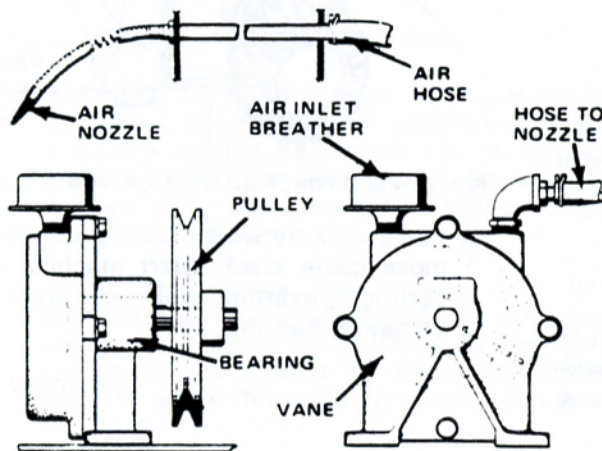

FIG. 29. AIR PUMP & CHIP BLOWER.
- (1) Compressed air for vane-type pump is delivered to chip blower nozzle. Adjust flexible blower nozzle to remove chips from sawing area. See Fig. 29.